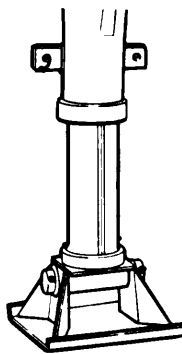

Figure 3-4. Landing Gear
- a. Use a soft cloth to remove any buildup of grease and dirt (fig. 3-4).